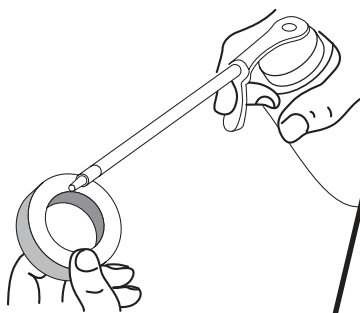

Figure 24
4. Apply enough clean SAE 30 oil to lightly coat the filter. See Figure 24.